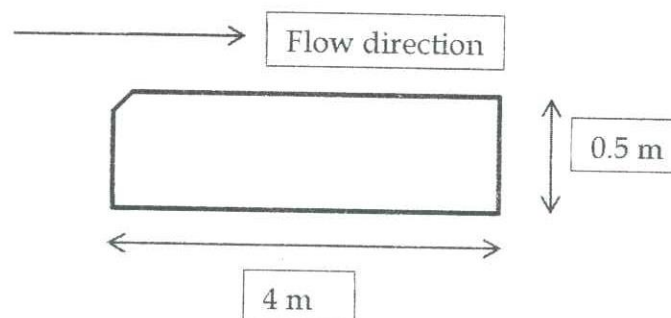

Figure Q2: Dimensions of the broad crested weir
- (b) A rectangular lined channel is 8 m wide and Manning's roughness coefficient can be taken as 0.015. The channel has a constant bed slope of 0.004. The channel has a uniform flow in the upstream and the flow encounters a 0.5 m high broad crested weir as shown in Figure Q2 at a certain point. The discharge equation for a broad crested weir can be taken as $Q = CLH^{3/2}$. Where $C = 0.6$, L is length of the weir and H is the height of water head upstream related to the weir crest.